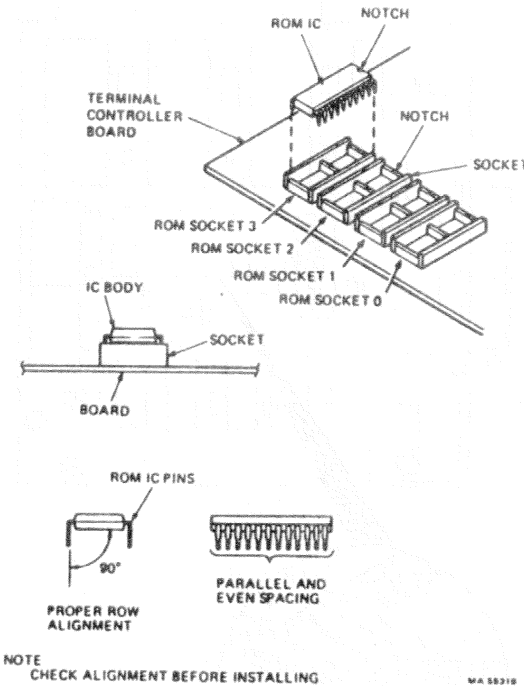

Figure 5-4 Terminal Controller Board ROM Installation
3. Referring to Figure 5-4, align the ROM so the notch on the end of the ROM is on the same side as the notch on the board socket. Check that all ROM pins are evenly spaced and straight before trying to insert the ROM into the board socket.